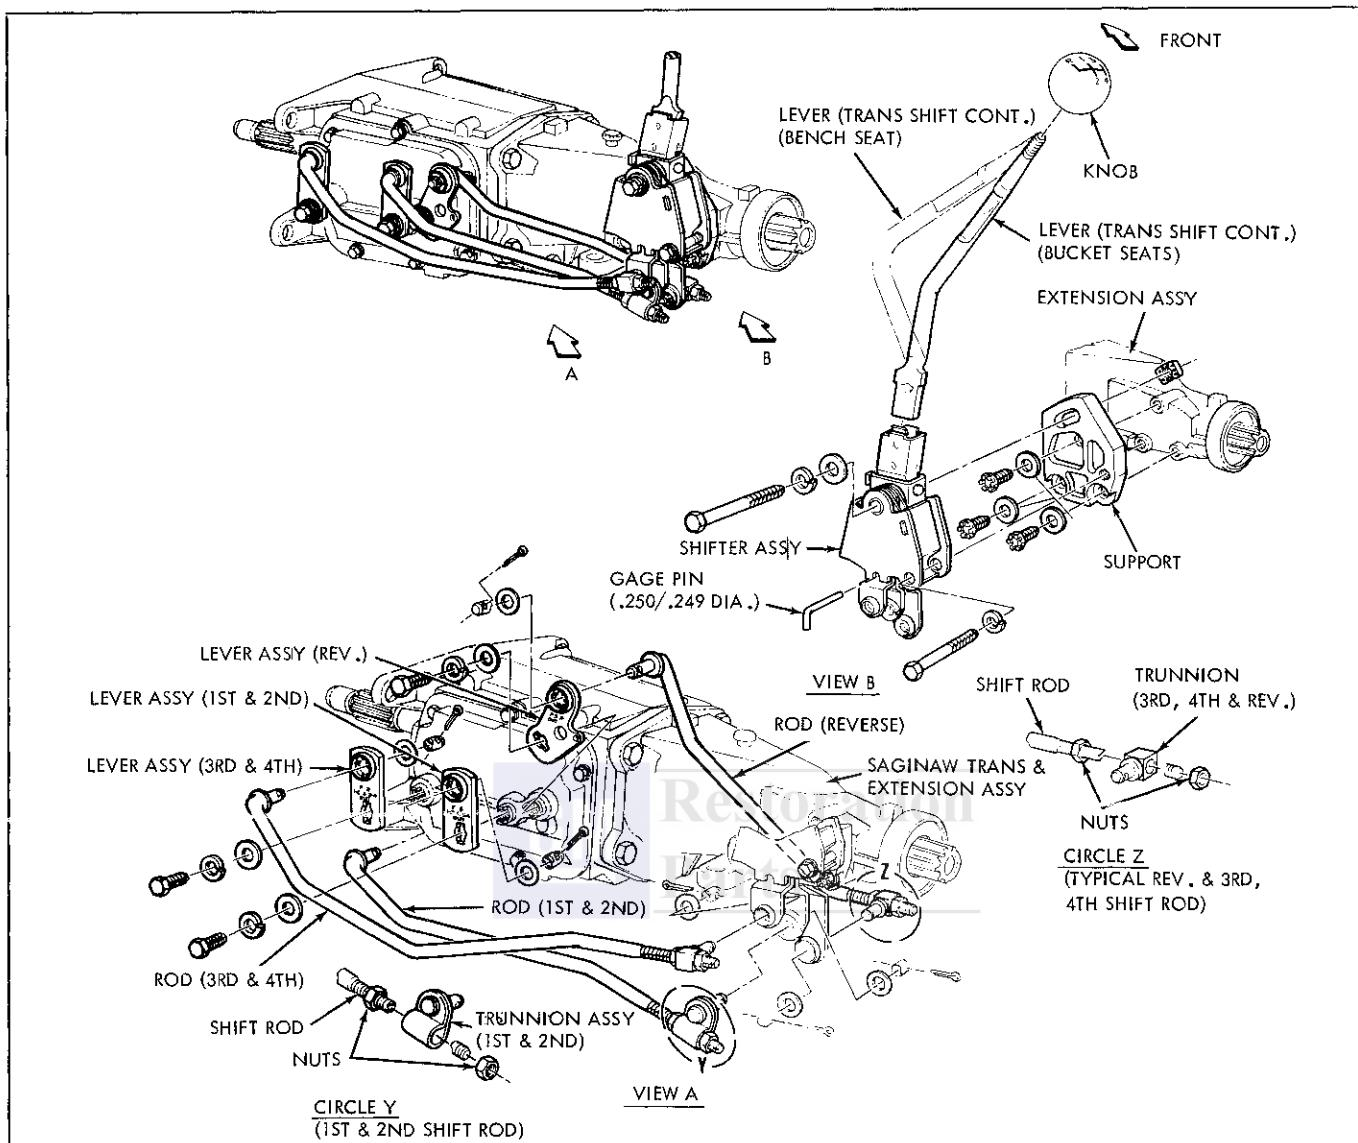

Fig. 7C-1 Tempest Shift Linkage
5. Remove both shift forks from shifter shaft assemblies. Remove all three shifter shaft assemblies. Remove reverse shifter shaft detent ball and spring. (Fig. 7C-3)